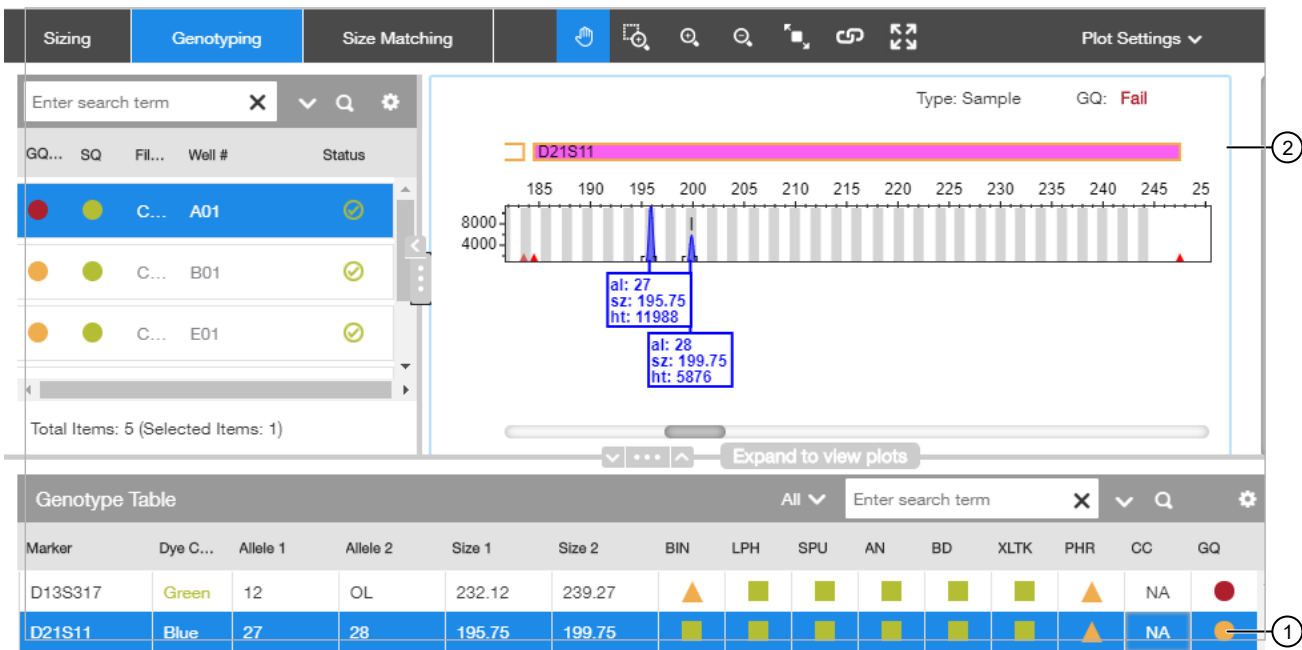

Figure 12 Example 2
- Figure 12 shows a ● GQ result is caused by a peak height ratio that does not meet the threshold (PHR PQV).